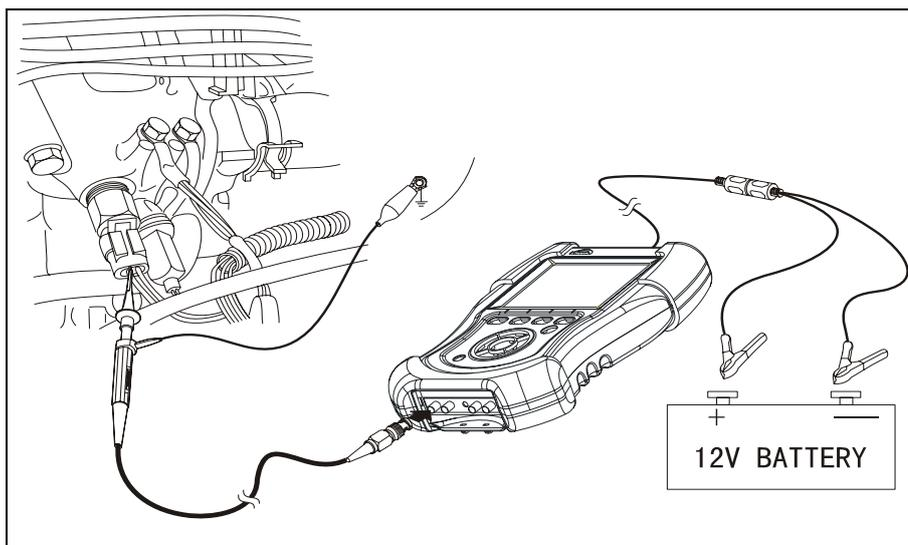

Fig. 3-7
When connecting KT600 to extension line for power supply, choose battery or cigar igniter as power supply according to the battery position of vehicle mode tested. All connecting diagrams in this users manual take power supply by battery as example. If choosing cigar igniter connector, confirm that cigar igniter has 12V battery voltage first. Connect test probe to Channel 1 (CH1 port), and then connect the small alligator clip on test probe to the negative of battery or grounding, pierce test probe into the trigger signal line of temperature sensor. Connecting diagram is shown as Fig.3-7.
1. Connect equipment according to Fig.3-7, switch on power supply switch;